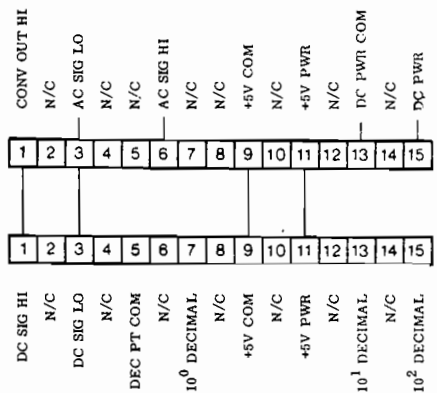

Figure 3. Connector Diagram for RM-351AC/XX VDC
3. WIRING. Figure 3 provides wiring information for the connectors. Connect contacts 1, 3, 9 and 11 of the upper connector to the corresponding contacts on the lower connector. Connect AC signal HI to contact 6 of the upper connector; a shielded lead may be needed if the signal has a high source resistance. Connect AC signal LO to contact 3 of the upper connector. To display a decimal point, jumper between contact 5 and contact 7, 13 or 15 on the lower connector, depending upon which decimal point is to be displayed. See following decimal location/contact number information.